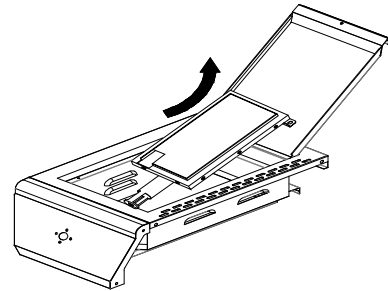

Fig.25
- (b) Remove two screws from side burner control valve face. Insert side burner valve control stem through hole in side burner control panel. Place side burner control knob bezel (T) over side burner valve control stem. Secure bezel to control panel and valve with 2 screws removed above. See Fig.25.